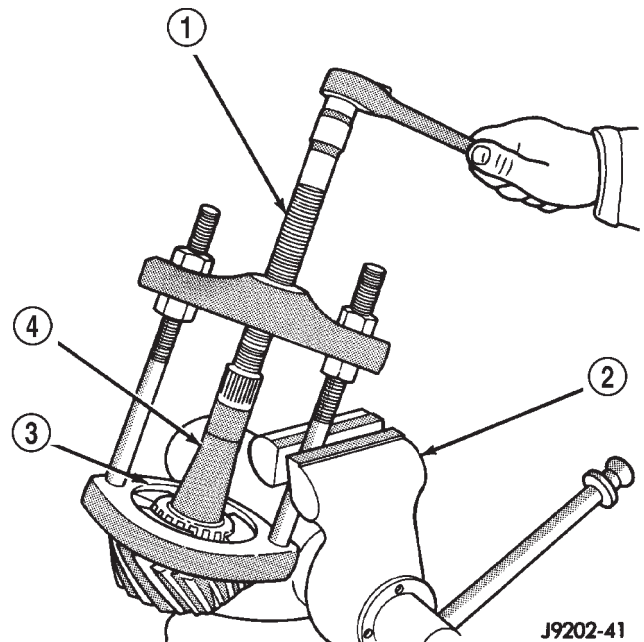

Fig. 29 Rear Bearing Removal
- (13) Remove the rear bearing from the pinion (Fig. 29) with Puller/Press C-293-PA and Adapters C-293-47.
- (14) Remove the depth shims from the pinion shaft. Record the thickness of the depth shims.